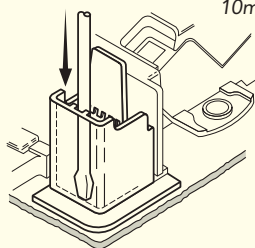
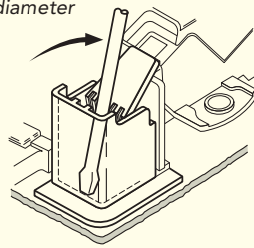

Figure 6a
Figure 6b
- To pre-stress the clamp insert a flat bladed screwdriver into the cord grip as shown in fig. 6a and flex the clamping jaw open until it touches the grey base moulding fig. 6b. Then remove the screwdriver.